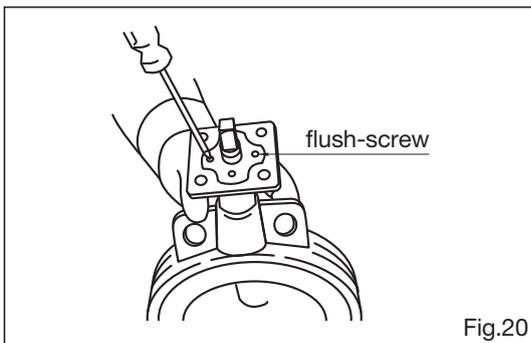

Fig.20
Remove the plate ⑩ securing the upper shaft ④ the bushing ⑨ and screws ⑧ fixing O-ring ⑭. When screws ⑧ removed, to avert air remaining in the shaft hole, loosen the screw ⑧ gradually. (Fig.20)